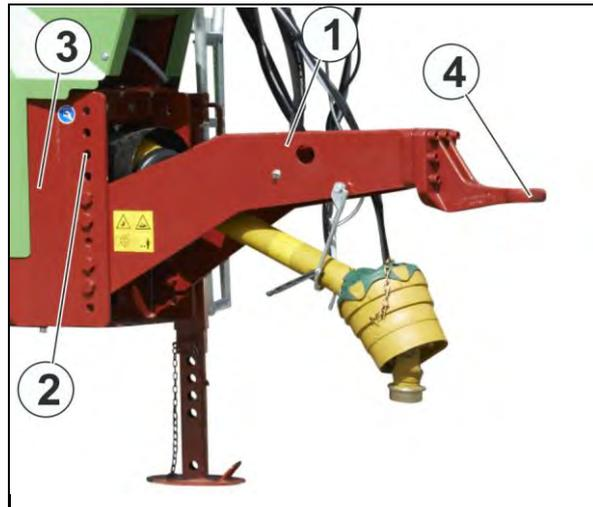

Fig. 59
The drawbar (1) can be screwed on within the adjusting range of the positioning holes (2) at different levels compared to the chassis (3) (Fig. 59).